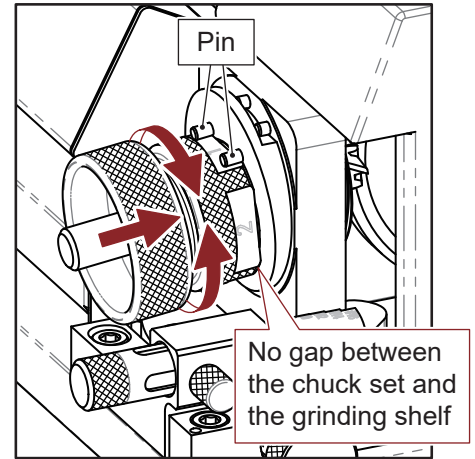

Fig. 9-1
1. Cutting Lip Grinding (Fig. 9-1)
- ① Insert the chuck set into the corner radius grinding shelf, align the slot of clamping nut to the two pins on the grinding shelf, push the chuck set gently and turn it clockwise and counterclockwise until the grinding noise stops.
- ② Take the chuck set out, turn it to the other side and grind the end mill in the same way.